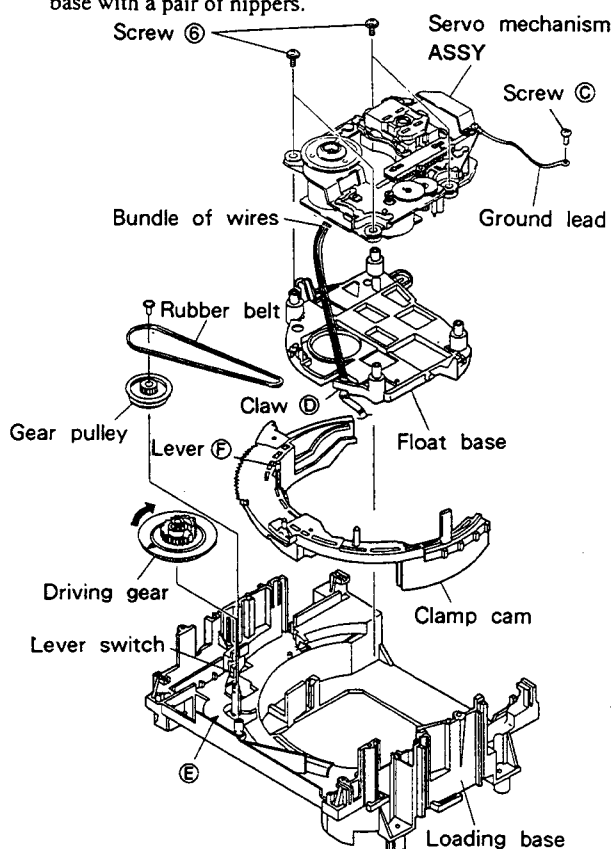

Fig. 2.
3. REMOVING THE FLOAT BASE (See Fig. 2.)
- ① Remove the servo mechanism assembly. (See 2.)
- ② Rotate the driving gear in the clockwise direction fully. The clamp cam will rotate in the counterclockwise direction, and the float base will rise.
- ③ After removing the bundle of wires from claw (D) of the float base, remove the float base.